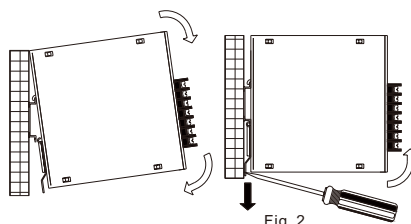

Fig. 2
2. Snap power unit on TS35 DIN rail, please operate as Fig. 2. Using a "-" screw driver to pull down underside mounting bracket to release power unit from TS35 DIN rail.